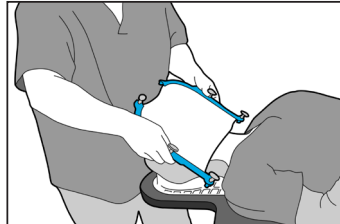

Fig. 2
4. Begin by hooking the edge of the thermoplastic under the patient's chin, with the thermoplastic tilted up at a 45° angle to the patient's face (Fig. 2).